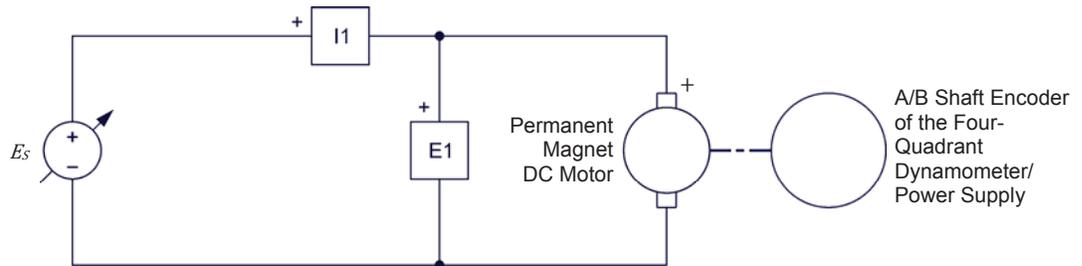

Figure 45. Setup used to plot the speed-versus-voltage characteristic of a permanent magnet dc motor operating as a motor.
6. Connect the equipment as shown in Figure 45. In this circuit,  $E_S$  is a positive dc voltage source implemented with the Four-Quadrant Dynamometer/Power Supply.  $E1$  and  $I1$  are voltage and current inputs of the Data Acquisition and Control Interface (DACI). The Permanent Magnet DC Motor is coupled to the Four-Quadrant Dynamometer/Power Supply with a timing belt to allow measurement of the motor rotation speed using the A/B shaft encoder in the Four-Quadrant Dynamometer/Power Supply.